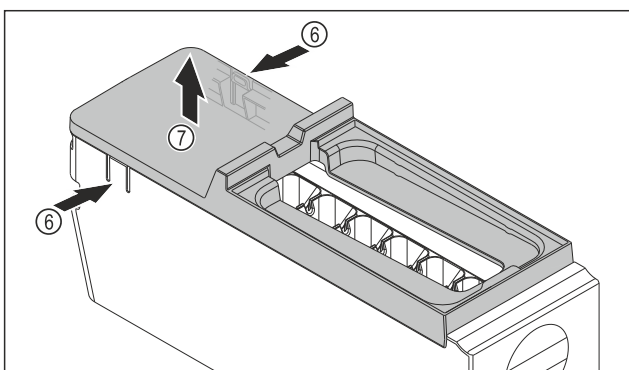

Fig. 142
- ▶ Removing the EasyTwist-Ice body cover: Push the tabs Fig. 142 (6) on both sides of the EasyTwist-Ice body with one hand.
- ▶ Use the other hand to remove the cover Fig. 142 (7) upwards.